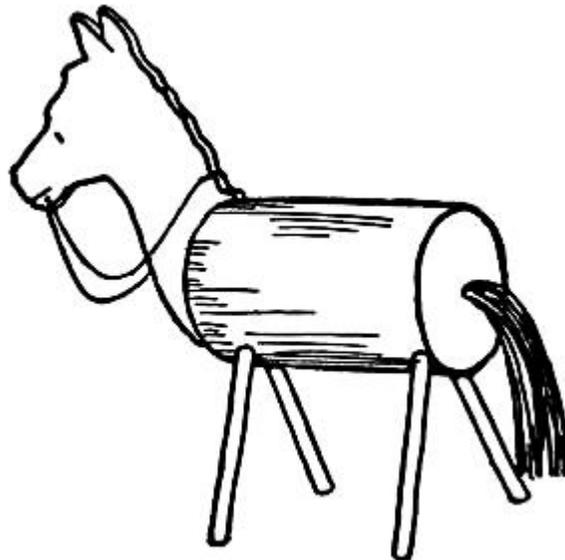

FIG. 398.—The Horse.
**A Horse** requires a cork of the same shape as that used for the pig. Cut the head out of cardboard and glue it in a slit made in the end of the cork (see Fig. 398). Dip the ends of four burnt matches in glue and stick them in the cork for legs, and fasten a few pieces of worsted in a hole made in the end of the cork for the tail. A piece of thread should be fastened about the animal's neck for reins.